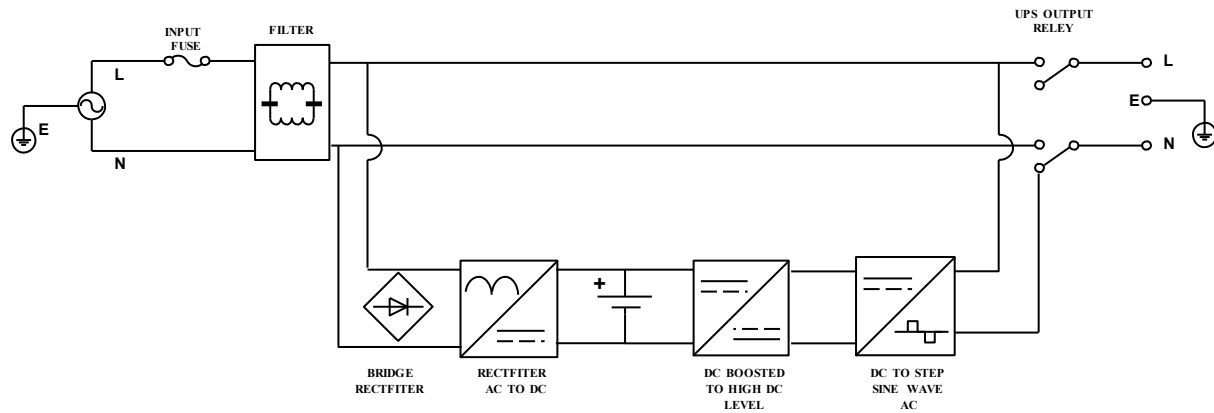

Figure 4: SDU AC B-Series UPS System Block Diagram
- **I/O Wiring:** Check that the UPS and the AC Supply is OFF (disconnected) before installation. Wire the UPS terminals with 90°C rated copper wire according to the table below. Connect the AC input ground terminal to the main supply ground. Connect line in neutral supply conductors. Connect the loads to the output hardwire connector. Verify proper wiring connections then apply power to the UPS. See Figure 4.